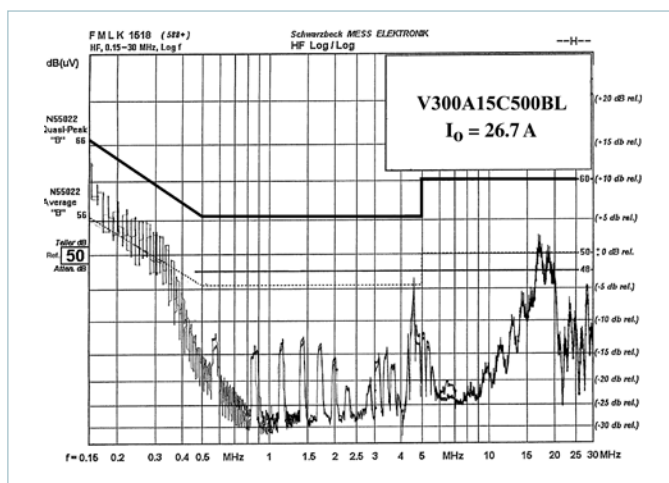
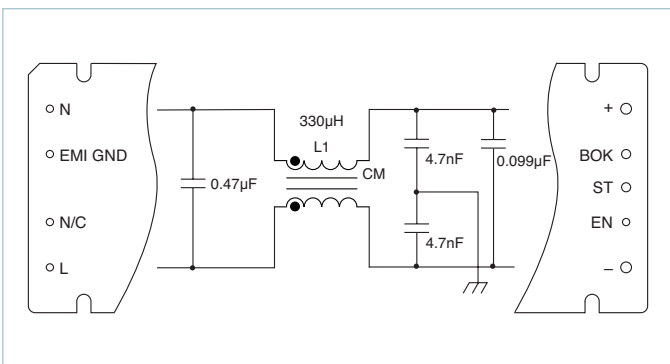

Figure 6 — Typical Conducted Emissions
Figure 12 — Internal filter
**Filter:** (See Figure 12) An integral input filter consists of a common mode choke and Y rated capacitors (line-ground) plus two X rated capacitors (line-line). This filter configuration provides common mode and differential mode insertion loss in the frequency range between 100kHz and 30MHz as illustrated in Figure 6.